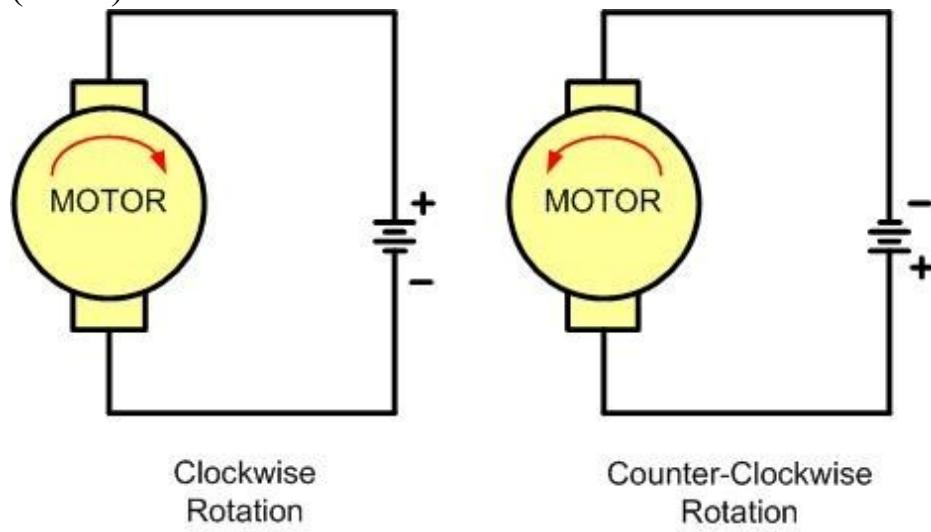

Figure 11-1: DC
Figure 11-1 shows the DC motor clockwise (CW) and counterclockwise (CCW) rotations.